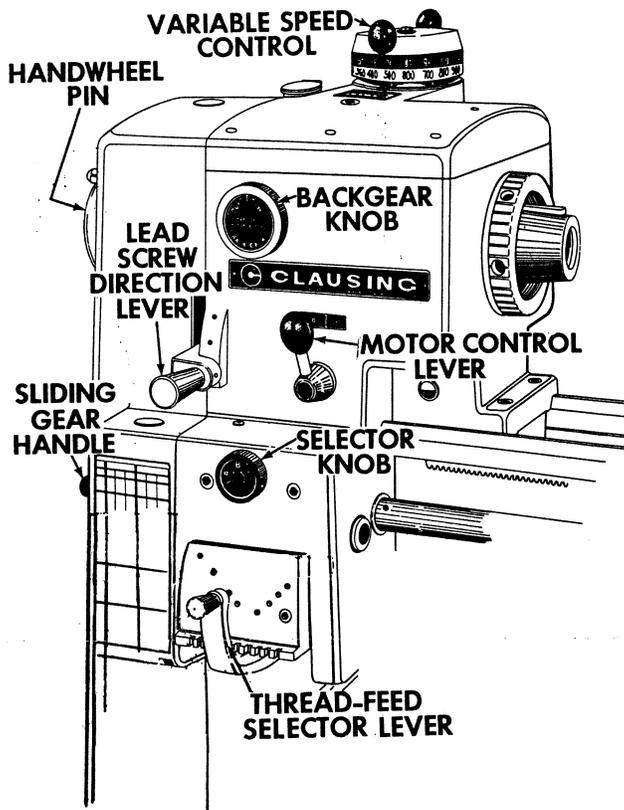

Figure 7
- A. Move thread-feed selector handle to the number position indicated on chart -- refer to figure 7.
**MOTOR CONTROL LEVER** located on front of headstock controls rotation of lathe spindle. It has three positions -- REVERSE, OFF, and FORWARD -- refer to figure 7.
See figure 7 for the location of the controls described below. Their positions for thread or feed selected are shown on chart.